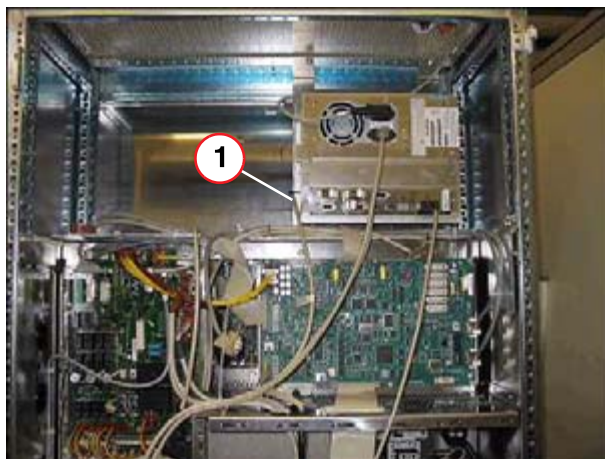

Fig. 46: XCU cable connection
- Connect the CAN cable with designation N10.D100.X10 on the left side of the XCU to D100 (1/Fig. 46 / p. 42).